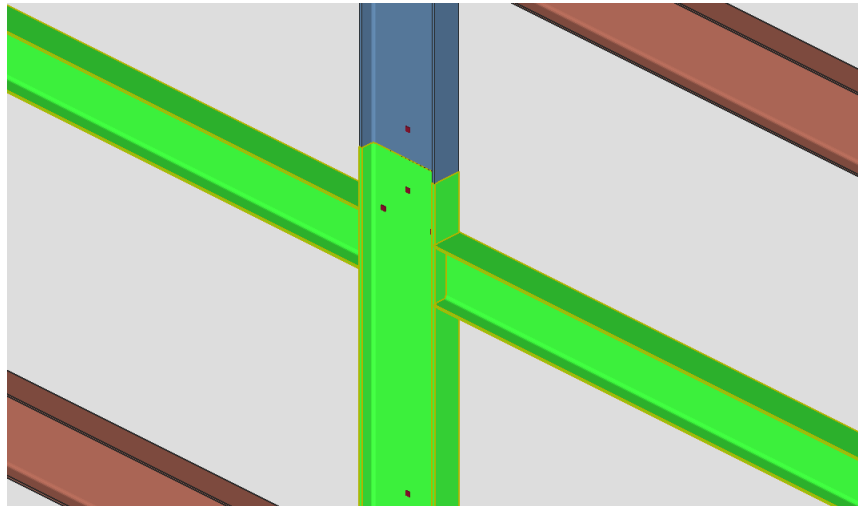

Figure 12. Select Members
4. If there is a second beam, select it while still holding the shift key. Column and beam(s) should all be selected, see Figure 12.